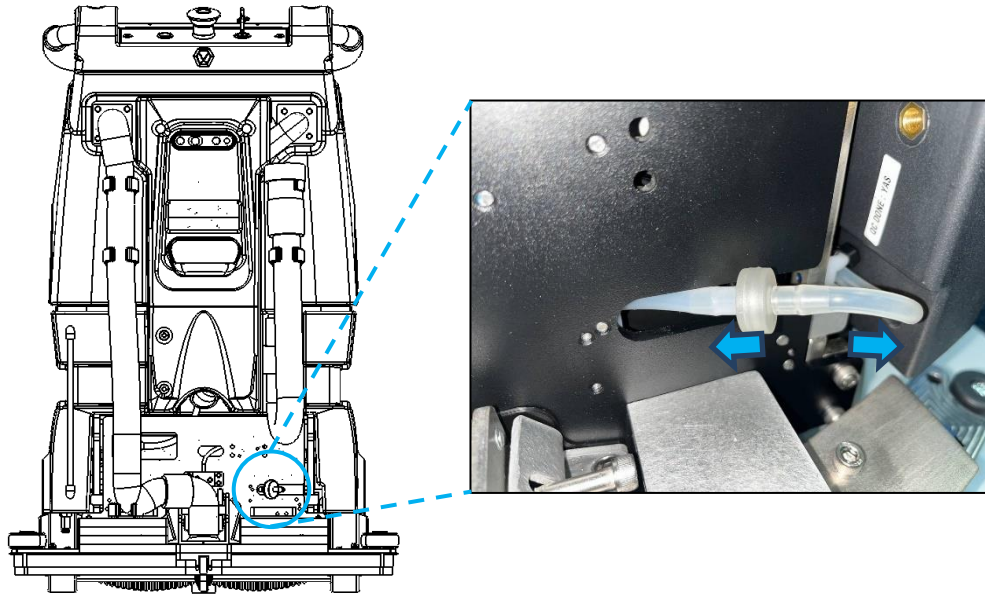

Fig. 2
2. Plug the unplugged tube shown (Fig 2)